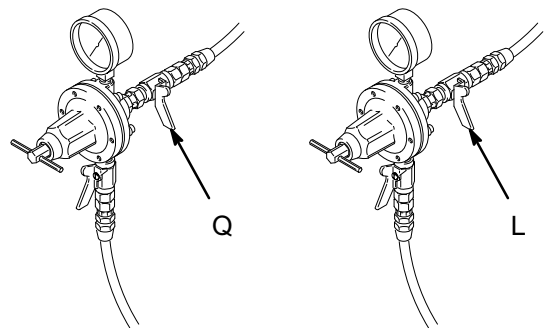

Fig. 2
1. Close the adhesive and activator shut-off valves (Q and L). See Fig. 2.